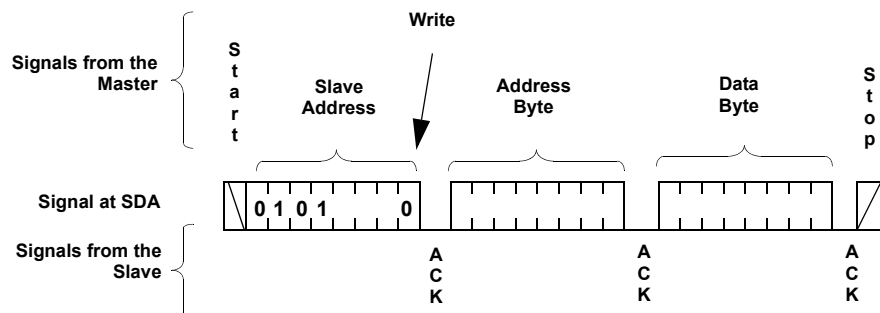
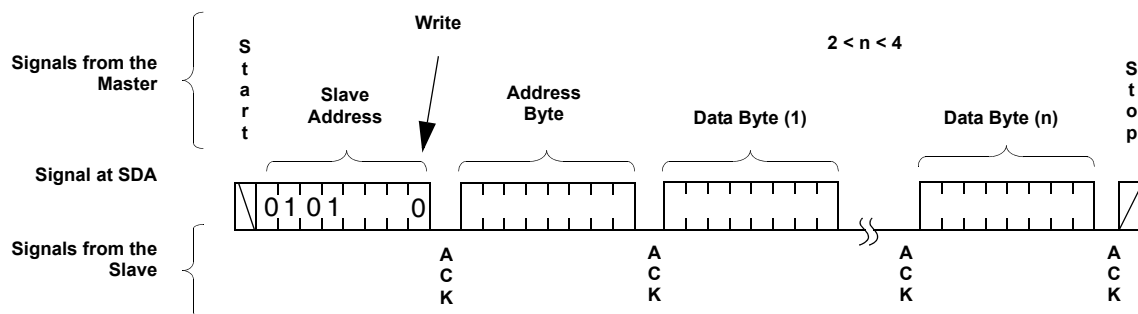

FIGURE 7. BYTE WRITE SEQUENCE
FIGURE 9. PAGE WRITE OPERATION
2. **Access the desired DR or WCR using a new write or read command** (see Figure 7 for write and Figure 9 for read.)
For any Byte Write operation, the X9455 requires the Slave Address byte, an Address Byte, and a Data Byte (See Figure 7). After each of them, the X9455 responds with an ACK. The master then terminates the transfer by generating a STOP condition. At this time, if the write operation is to a volatile register (WCR, or SR), the X9455 is ready for the next read or write operation. If the write operation is to a nonvolatile register (DR), and the $\overline{WP}$ pin is high, the X9455 begins the internal write cycle to the nonvolatile memory. During the internal nonvolatile write cycle, the X9455 does not respond to any requests from the master. The SDA output is at high impedance.
As stated previously, the memory is organized as a single Status Register (SR), and four pages of four registers each. Each page contains one Data Register for each wiper. Normally a page write operation will be used to efficiently update all four Data Registers and WCR in a single Write command. Note the special sequence for writing to a page: First wiper 0A, then 1B, then 1A, then 0B as shown in Figure 9.
up to 4 bytes (See Figure 9). After the receipt of each byte, the X9455 responds with an ACK, and the internal WCR address is incremented by one. The page address remains constant. When the address reaches the end of the page, it "rolls over" and goes back to the first byte of the same page.